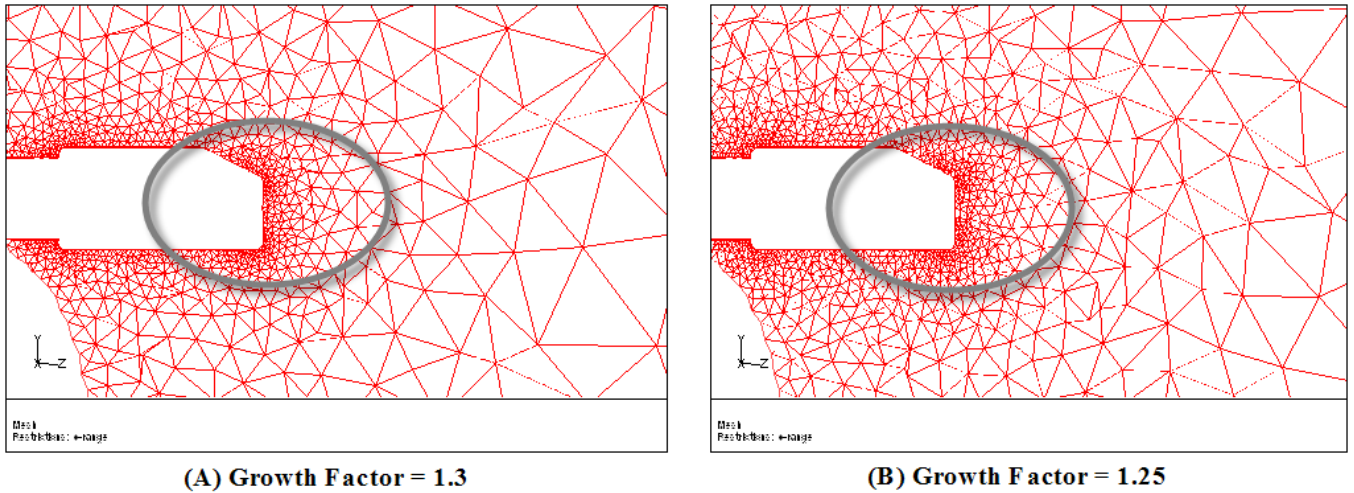

Figure 2.12: Comparison of Meshes Based on Growth Factor
*For the mesh generated, the mesh transition is smoother (see Figure 2.12), however the number of cells generated is significantly more.*